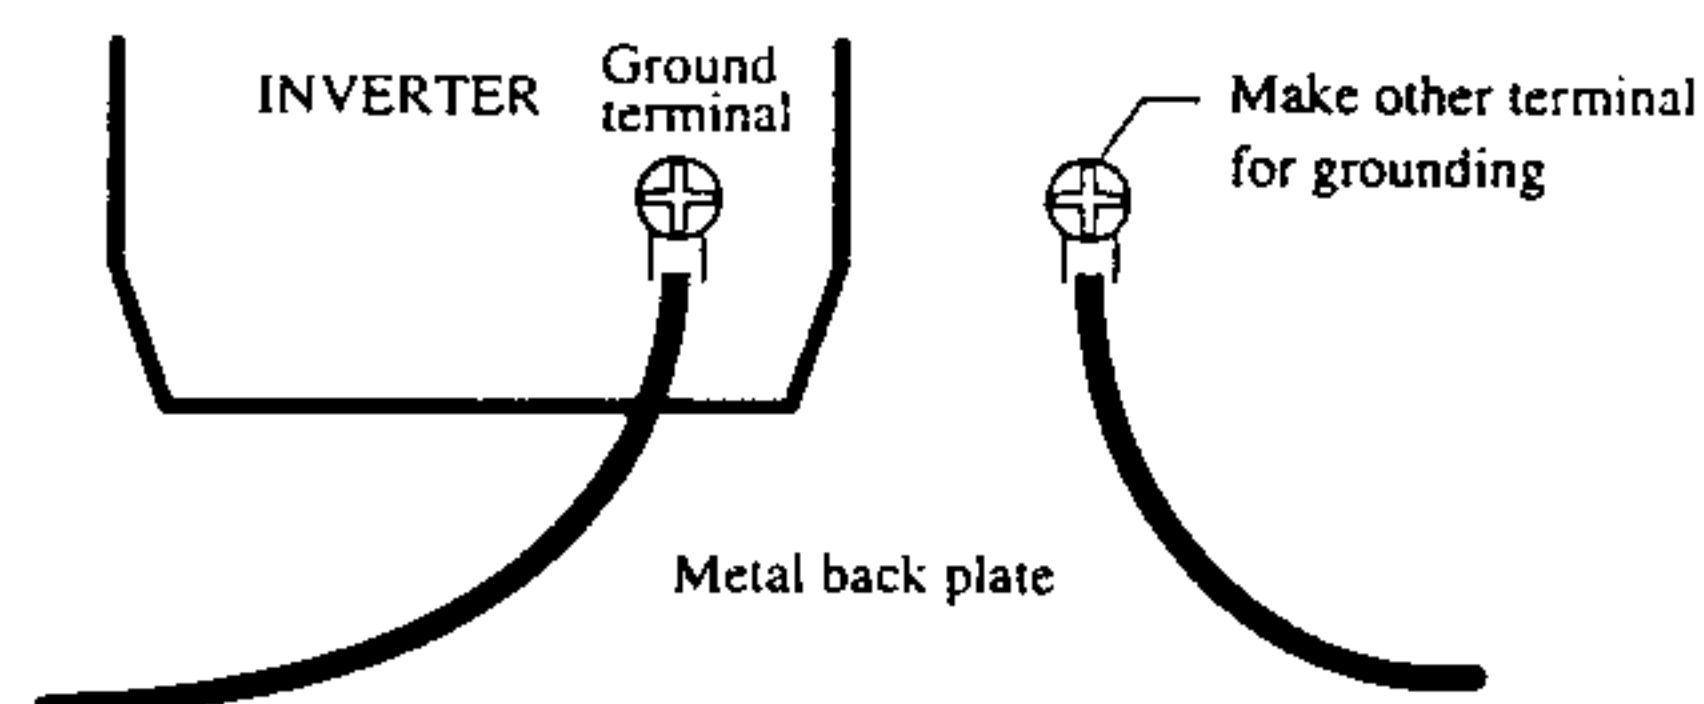

Figure 6 Grounding
- 2) No more than 1 cable should be connected to each ground terminal of the main terminal board. In this case, other cables for grounding should be grounded on the metal back plate or/and in the cubicle (Refer to Figure 6). The cross-sectional area of grounding cable shall be, in any case, not less than 3.5 mm².